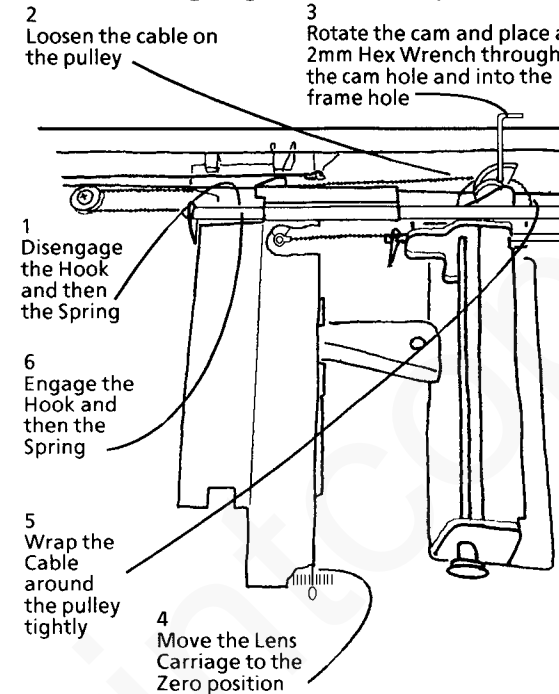

Figure 2. Adjusting the Lens Cable
1. Adjust the Lens Cable (Figure 2).